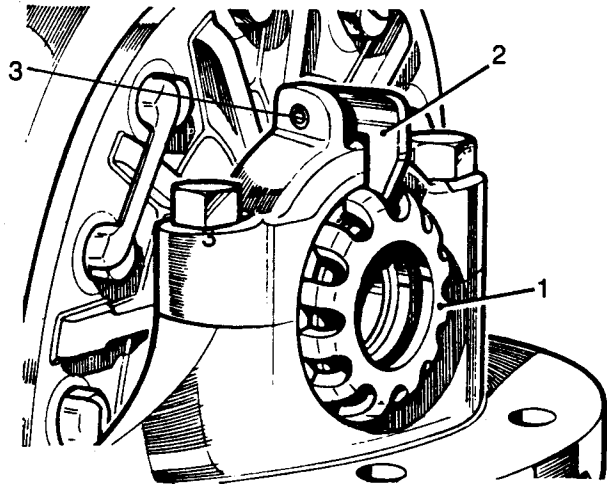

Fig J2.65
- (21) Refer to Fig J2.65. With the backlash correct and no bearing end-float or pre-load, tighten both serrated nuts (1) by half a serration only, — to pre-load the taper roller bearings.
- (22) Engage the lockers (2) into the serrated nuts. If either locker is not opposite a serration, bend it to fit.
- (23) Fit the spring pins (3) to retain the lockers.
- (24) Tighten the bearing cap bolts. Torque to 83 N.m.
- (25) Refit the differential assembly (see Sub-sub-section J2.3, Chapter 3).